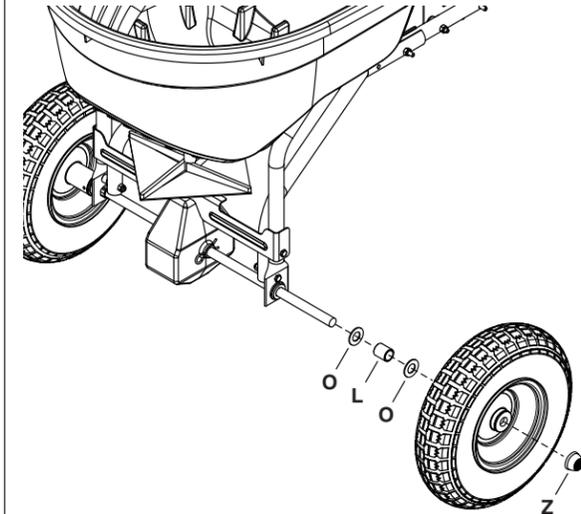

Figure 15
STEP 16: (SEE FIGURE 15)
- Slide a 5/8" washer (O), a spacer (L), a 5/8" washer (O) and a wheel onto the end of the axle with no hole.
- Carefully hammer a hub cap (Z) onto the axle.